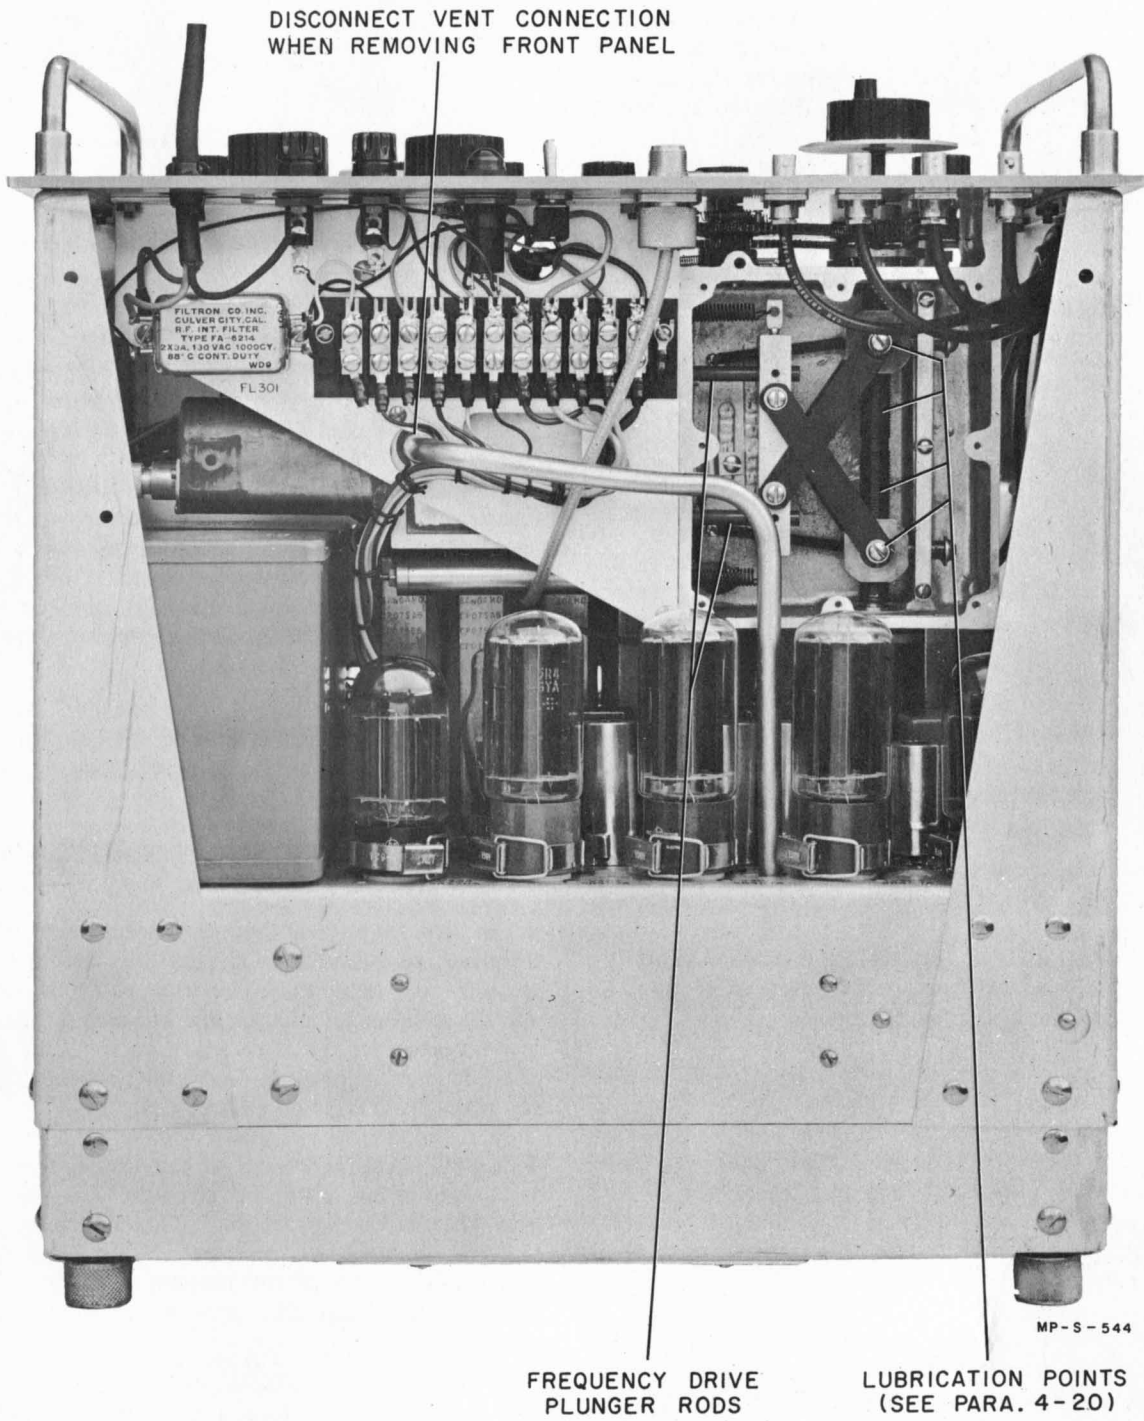

Figure 4-11. Bottom View Showing Plunger Drive
- 4) With MEGACYCLES dial still set at 7650, loosen set screws holding resonator plunger rods in drive bar, shown in Figure 4-11. Then manually move plunger rods in approximately 1/32 inch steps until output frequency is approximately 7650 megacycles as indicated by wavemeter. Tighten set screws in drive bar in this position.